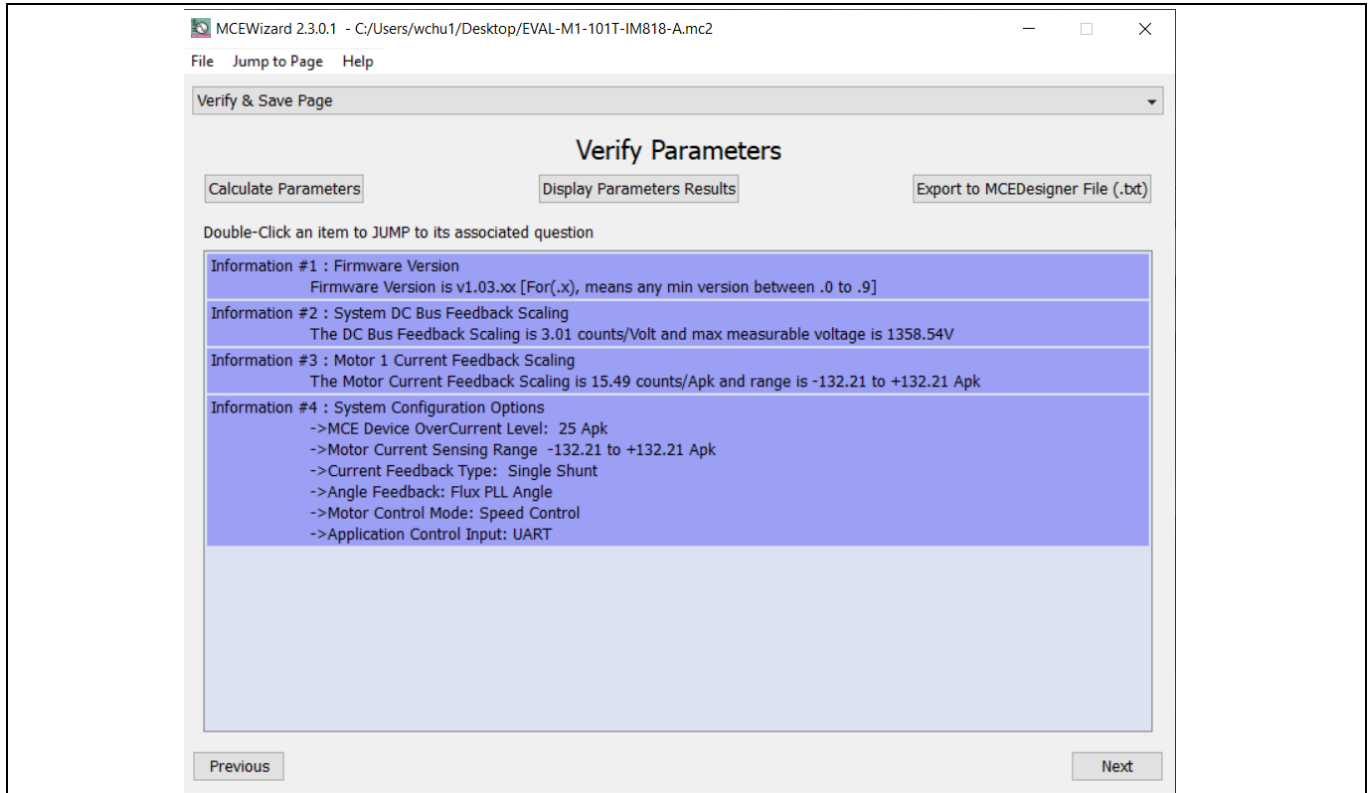

Figure 6 Verify and save page of the MCEWizard
3. Go to the Verify & Save page and click **Calculate Parameters**. Then, save the drive parameter set into your project directory by clicking **Export to MCEDesigner file (.txt)** (see Figure 6). This saved drive system parameter file will be used later by the MCEDesigner. Refer to Section 2.1.4 or the MCEWizard user guide for more information.
After all the MCEWizard questions are answered, the Verify & Save Page opens (see Figure 6.)